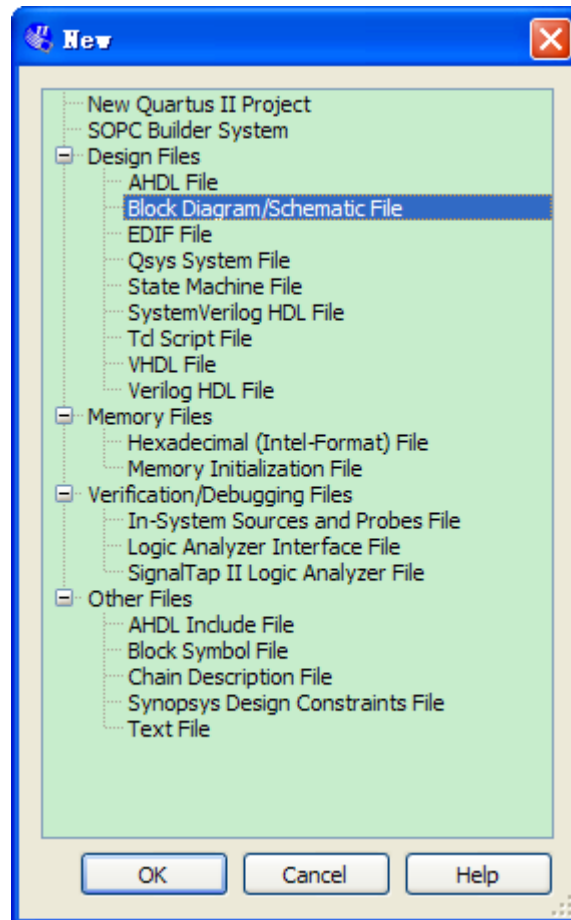

Figure 6-12 New BDF
1. Select **File > New > Block Diagram/Schematic File** (see Figure 6-12 to create a new file, **Block1.bdf**, which you will save as the top-level design.